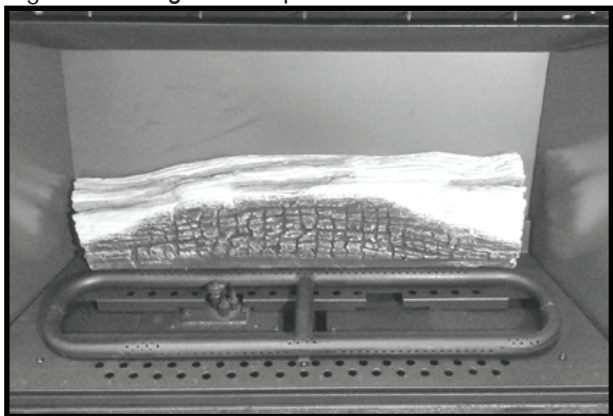

Figure 67: Rear log installation.
1. Position rear log against the back firebox (Figure 67).